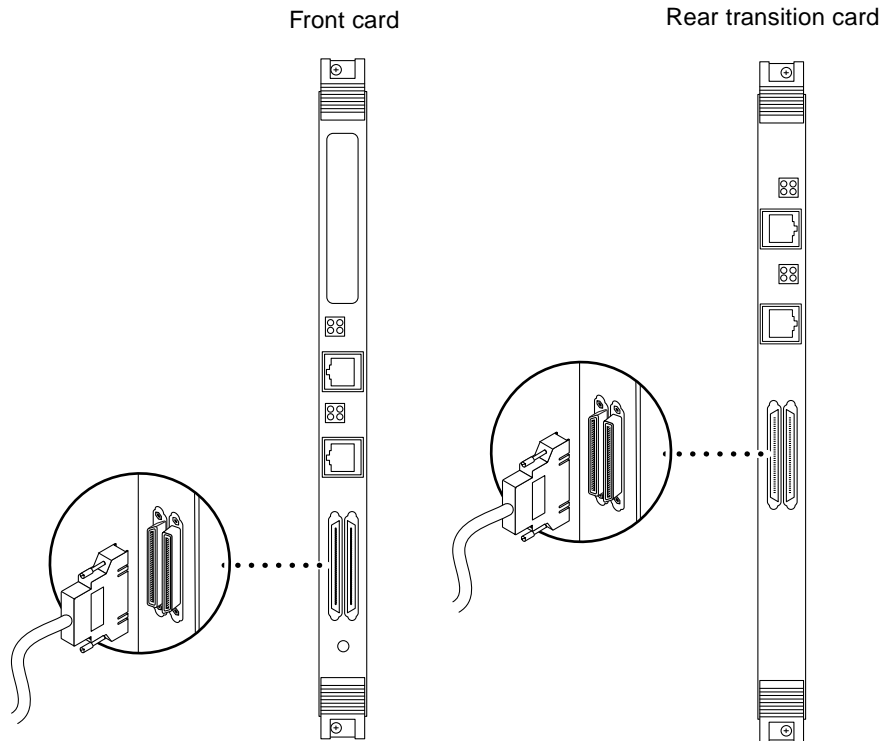

FIGURE 3-4 Connecting SCSI Cables to the Adapter
3. **Connect one end of the SCSI cable to a SCSI connector on the adapter** (see FIGURE 3-4).